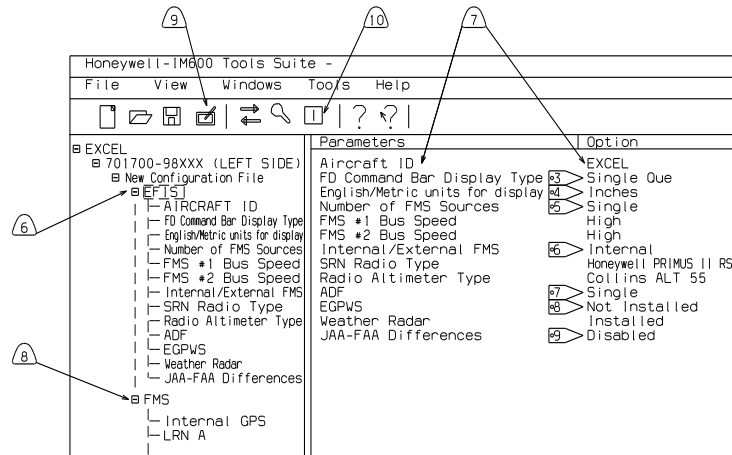

FIGURE 1. EFIS CONFIGURATIONS
- 7 TO CHANGE THE CONFIGURATION CLICK ON THE PARAMETER TO CHANGE AND THEN CLICK ON THE OPTION. A PULL DOWN MENU WILL APPEAR WITH THE AVAILABLE OPTIONS. SELECT THE OPTIONS SHOWN IN FIGURE 1 EXCEPT AS NOTED.